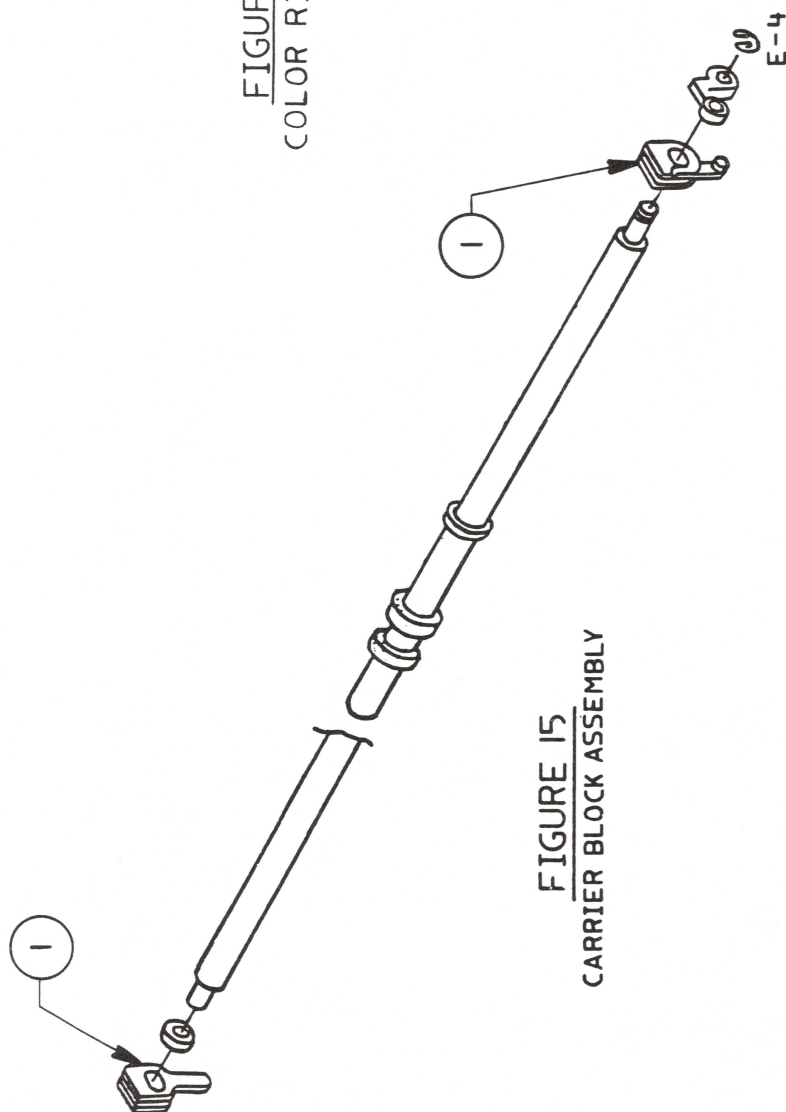

FIGURE 15
□ **IMAGEWRITER II - CARRIER BLOCK ASSEMBLY (Figure 15)**